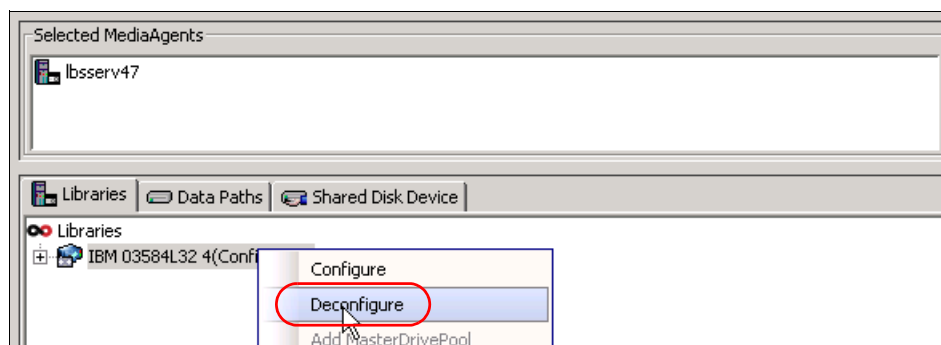

Figure 18-4 Unconfigure the existing tape library
4. In the General tab, under Libraries, right-click the robot, click **Deconfigure** (Figure 18-4), and confirm the operation. You might be requested to confirm twice.